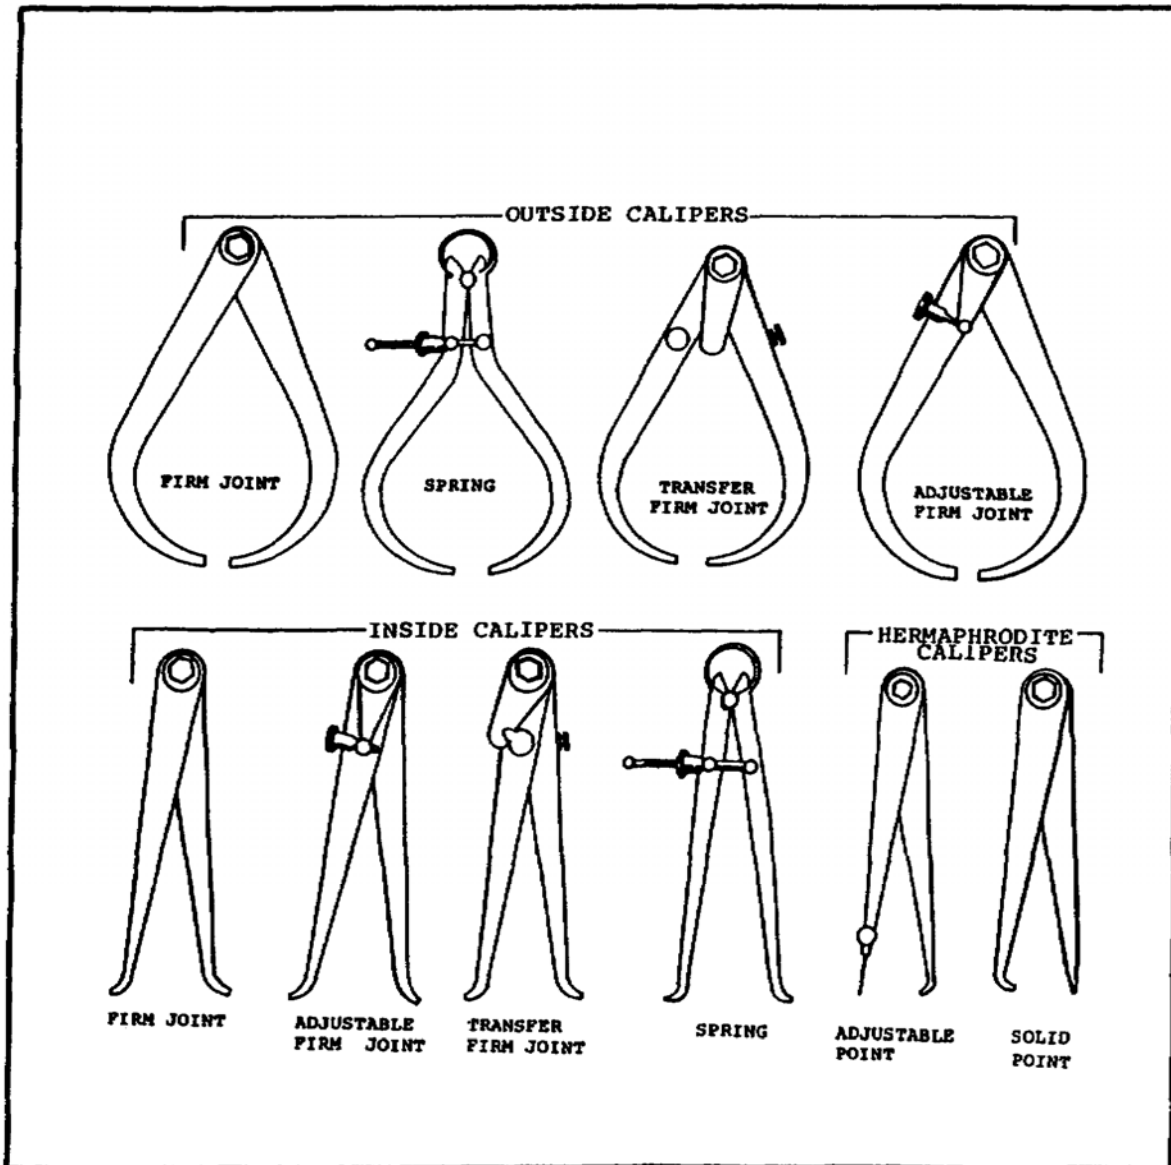

FIGURE 176. CALIPERS - NONCALIBRATED.
(2) *Outside Calipers*. Outside calipers (figure 176) are used to measure distances over and around adjacent surfaces, and to transfer the measurements to a rule. Several types are made in several sizes to accommodate a wide range in measurement. The size of the caliper is expressed in terms of the maximum dimension it is capable of measuring. A 3 inch caliper, for example, will measure a distance of 3 inches. Actually, the maximum capacity of the caliper will be greater, often as much as one third. This means that a 3 inch caliper will actually measure up to 4 inches. It is not recommended that you use a 3 inch caliper to measure 4 inches, since you may spring the legs, resulting in an inaccurate measurement.
(3) *Inside Calipers*. Inside calipers (figure 176) have the same general function as outside calipers except that the inside caliper is used for measuring distances between inside surfaces. The points are rounded so that they are slightly ball shaped. This ball shape establishes the point of contact. This is important in inside calipering; where the surfaces are likely to have an inside curvature, error might occur if the radius of the hole being calipered were less than the radius of the points. Some inside calipers are equipped with an adjusting screw on one leg which provides a fine adjustment of the caliper legs.
(4) *Hermaphrodite Calipers*. Hermaphrodite calipers (figure 176) are a cross between a divider and an inside caliper, having one leg of each. These calipers are used for scribing parallel lines from an edge, or for locating the center of cylindrical work. Some are equipped with an adjustable point.